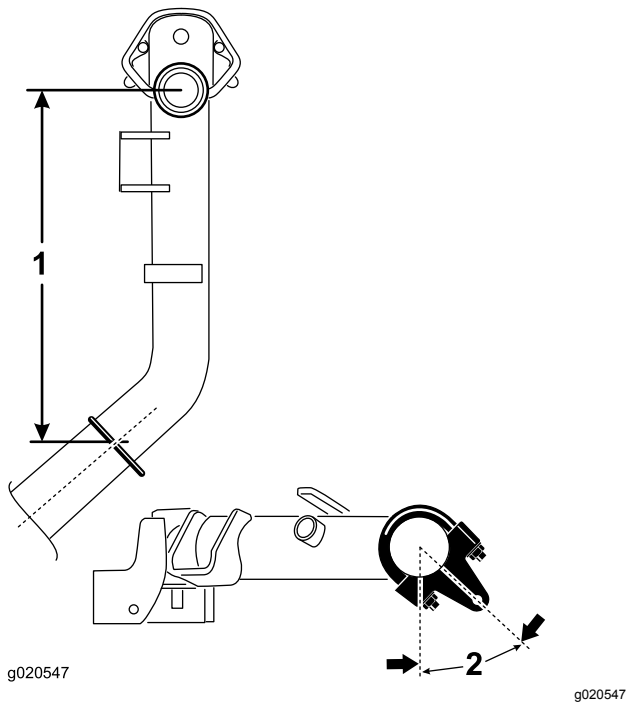

Figure 6
4. On lift arm numbers 2 and 3, position the brackets and U-bolts 38.1 cm (15 inches) behind the center line of the pivot knuckle (Figure 6).